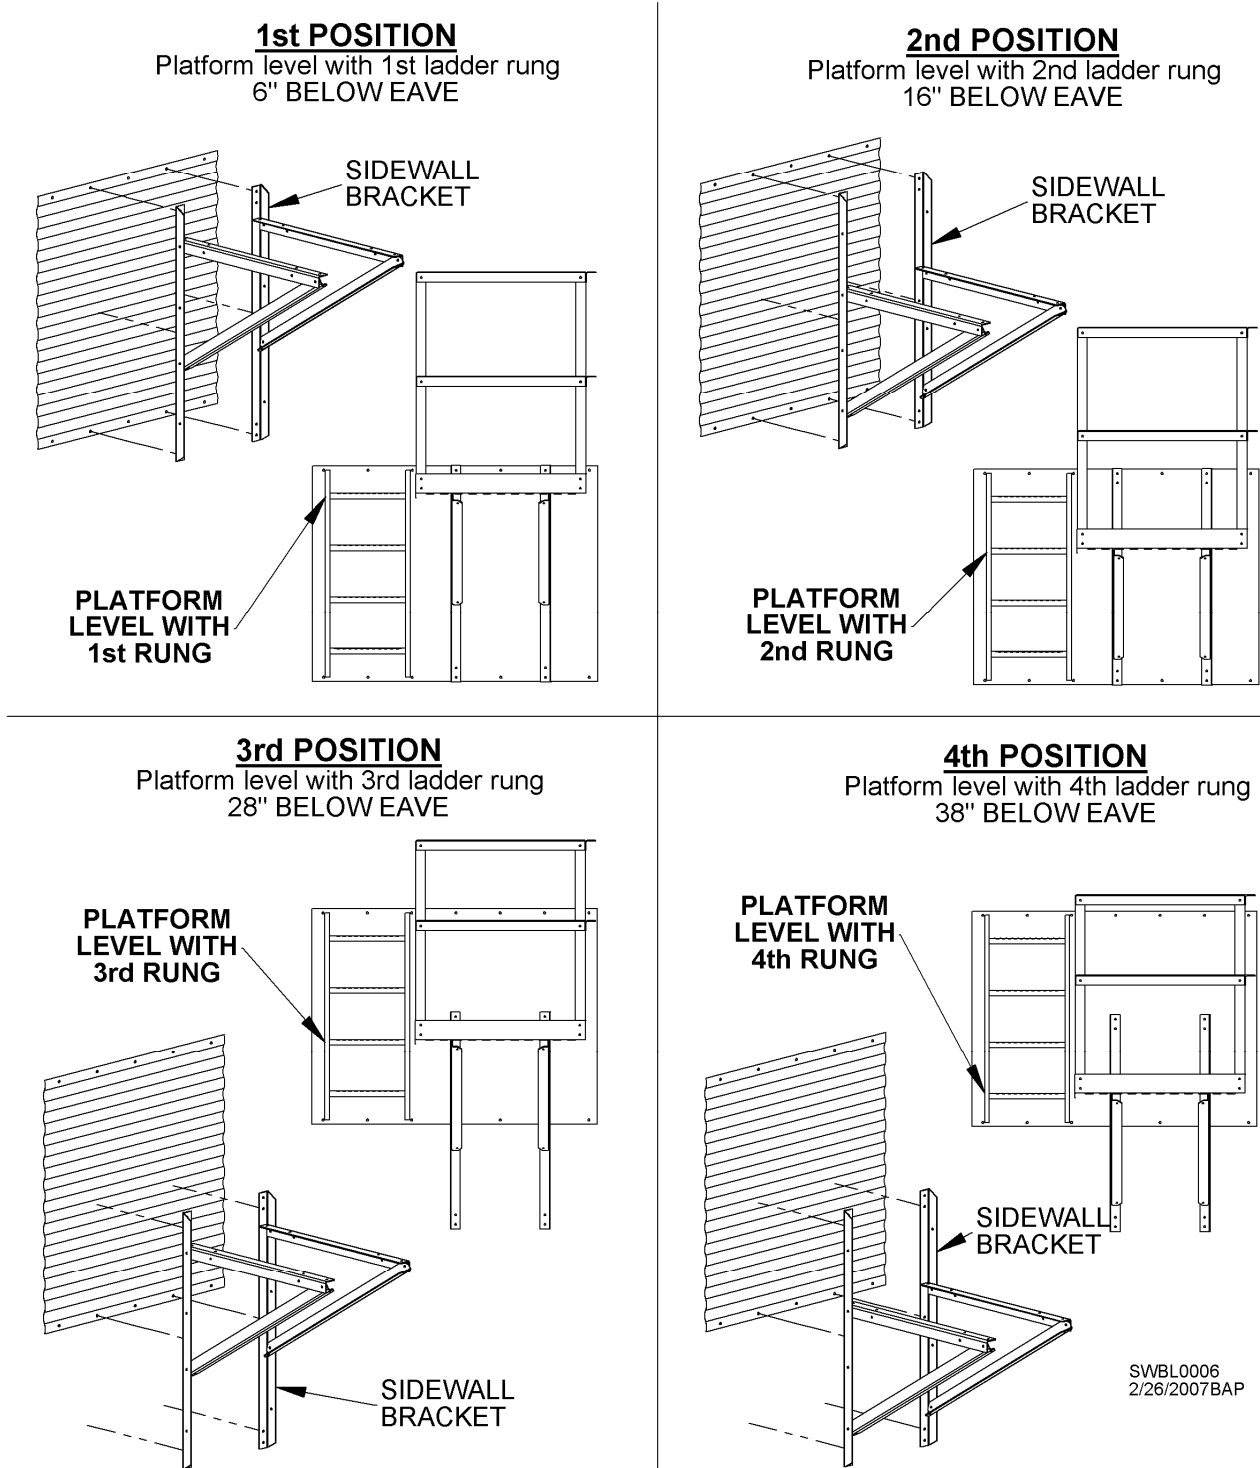

Fig.11
Fig. 11 shows the four (4) positions where platform can be located. **NOTE:** Each location is at same level as a ladder rung in first ring. For 1st & 2nd positions, 44" sidewall bracket mounts to sidewall at horizontal seam. For 3rd & 4th positions, center hole of 44" sidewall bracket is mounted at second horizontal seam. Field drilling is needed.